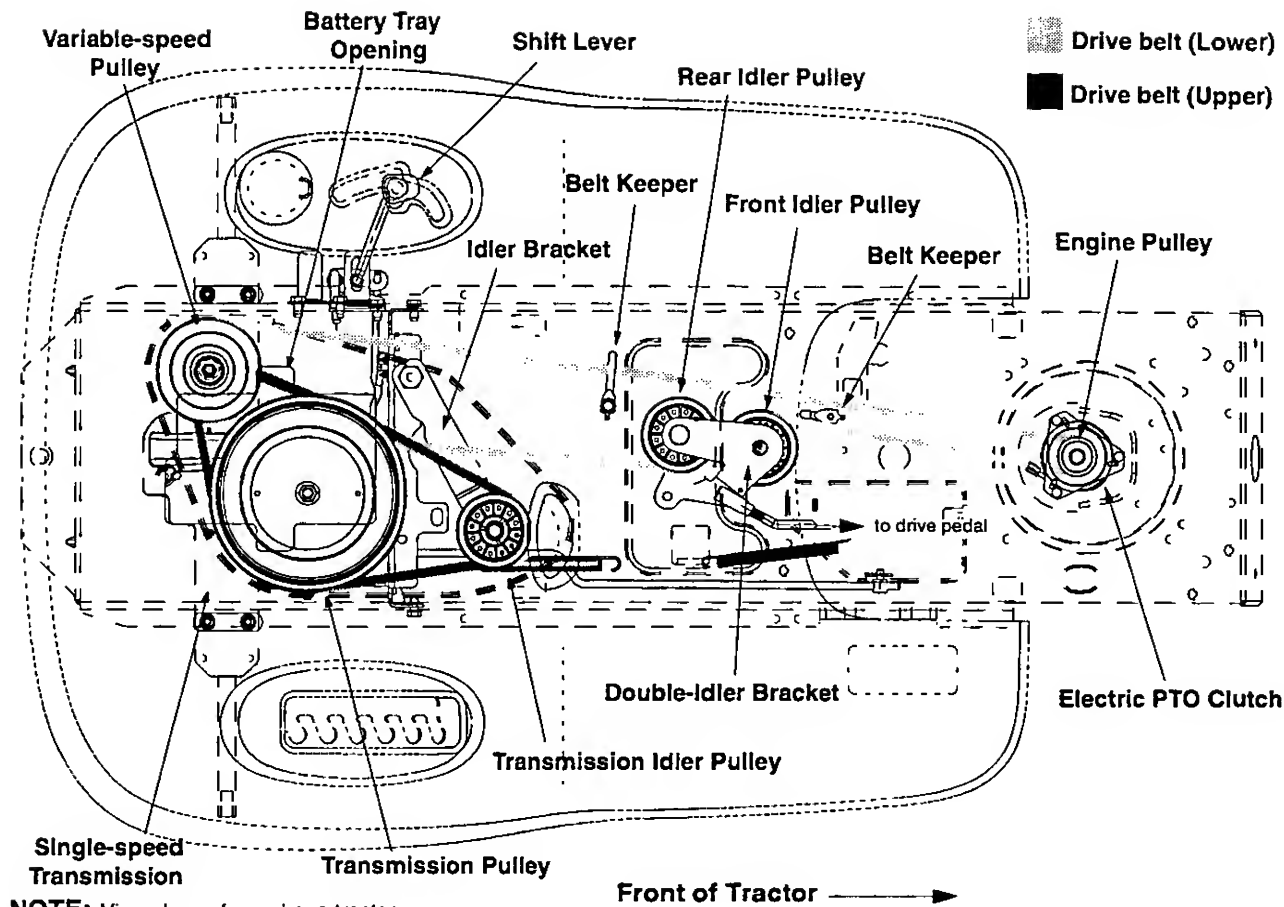

Figure 16
- Locate the transmission idler pulley on the upper drive belt by looking through the battery tray opening. See Figure 16.
- Reroute the new upper drive belt as shown in Figure 16.
- Locate the variable-speed pulley by looking through the battery tray opening. See Figure 16.
- Remove the rear idler pulley from the double-idler bracket while unrouting the belt from around both the rear and the front idler pulley. Refer to Figure 16.
- Remove the drive belt by feeding it from both ends toward the front idler pulley on the double-idler bracket. See Figure 16.
- Reroute the new belt around the pulleys and belt keepers EXACTLY as the old one was routed. Refer to Figure 16.